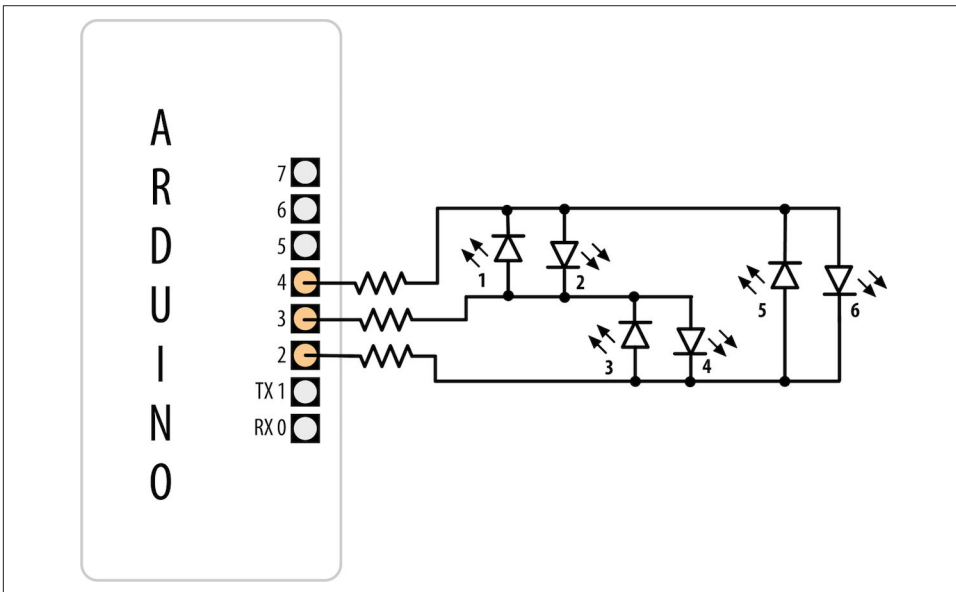

Figure 7-11. Six LEDs driven through three pins using Charlieplexing
*Charlieplexing* is a special kind of multiplexing that increases the number of LEDs that can be driven by a group of pins. This sketch sequences through six LEDs using just three pins. Figure 7-11 shows the connections (to calculate the correct resistor value for the LED connections, see Recipe 7.1):